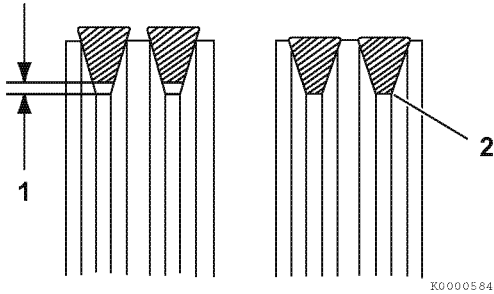

Figure 5-4
- Tighten the V-belt to the proper tension. There must be clearance (**Figure 5-4, (1)**) between the V-belt and the bottom of the pulley groove. If there is no clearance (**Figure 5-4, (2)**) between the V-belt and the bottom of the pulley groove, replace the V-belt.
- Inspect the condition of the used V-belt. There must be clearance (**Figure 5-4, (1)**) between the V-belt and the bottom of the pulley groove. If there is no clearance (**Figure 5-4, (2)**) between the V-belt and the bottom of the pulley groove, replace the V-belt.